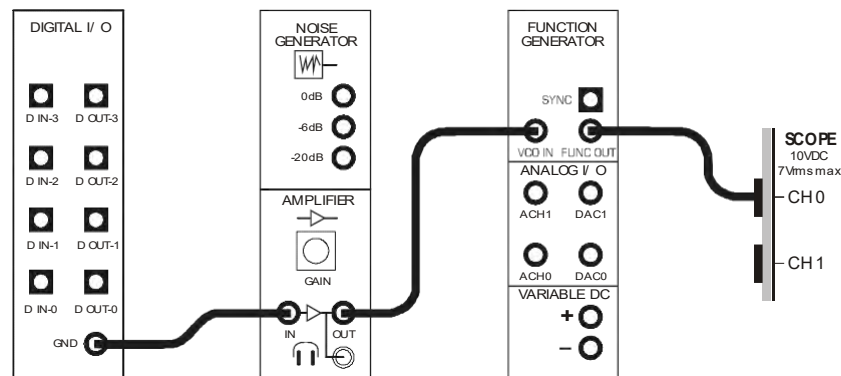

Figure 5
22. Connect the set-up shown in Figure 5 below.